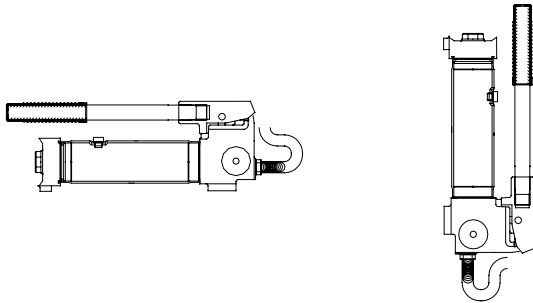

Figure 6 - Horizontal and Vertical Position
3. Pump may be used in horizontal and vertical position as illustrated in Figure 6.